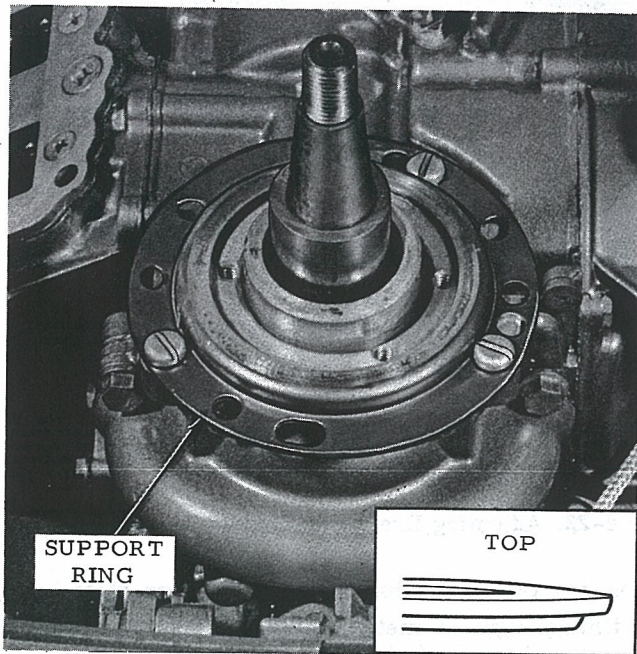

Figure 4-18. Magneto Support Position
c. Apply a coat of OMC Type "A" lubricant to the magneto support and retaining ring, and install support with taper side down. Align screw holes of the magneto support ring to correspond to the position of the magneto. See Figure 4-18. DO NOT add oil or grease to the oiler wick on the magneto.